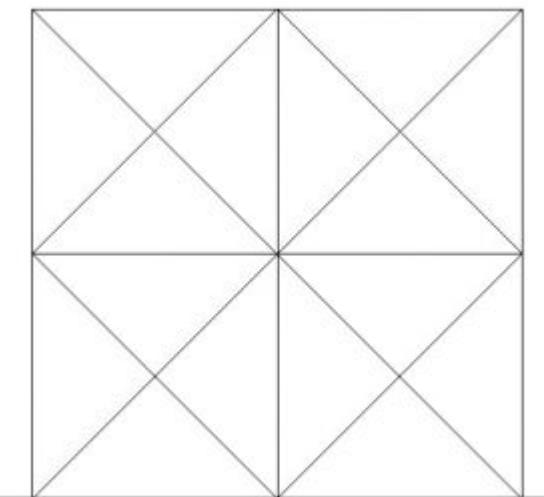

Figure 7.8 Detail line annotation pattern shown in the Section 2 view
10. In the East view, draw the pattern as shown in Figure 7.8 with the Line tool